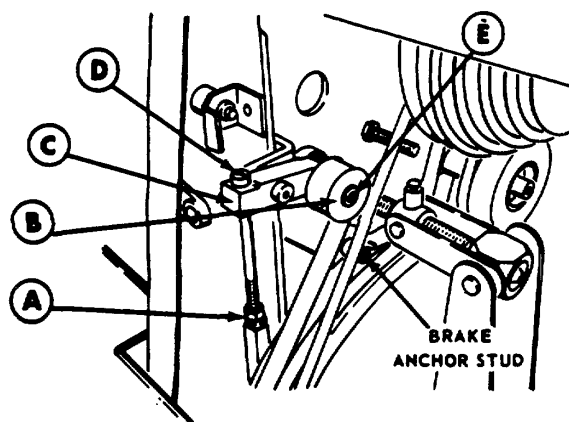

FIGURE 98
- (b) See Figure 98. Push STOP switch (amber light out), loosen Screw E, and rotate Brake Cam B until brake strap is loose.
- b. Slowly depress pedal, observing movement of Cam B (Figure 98). Brake must release well before motor starts. If brake does not release, adjust as instructed in Paragraph 6.